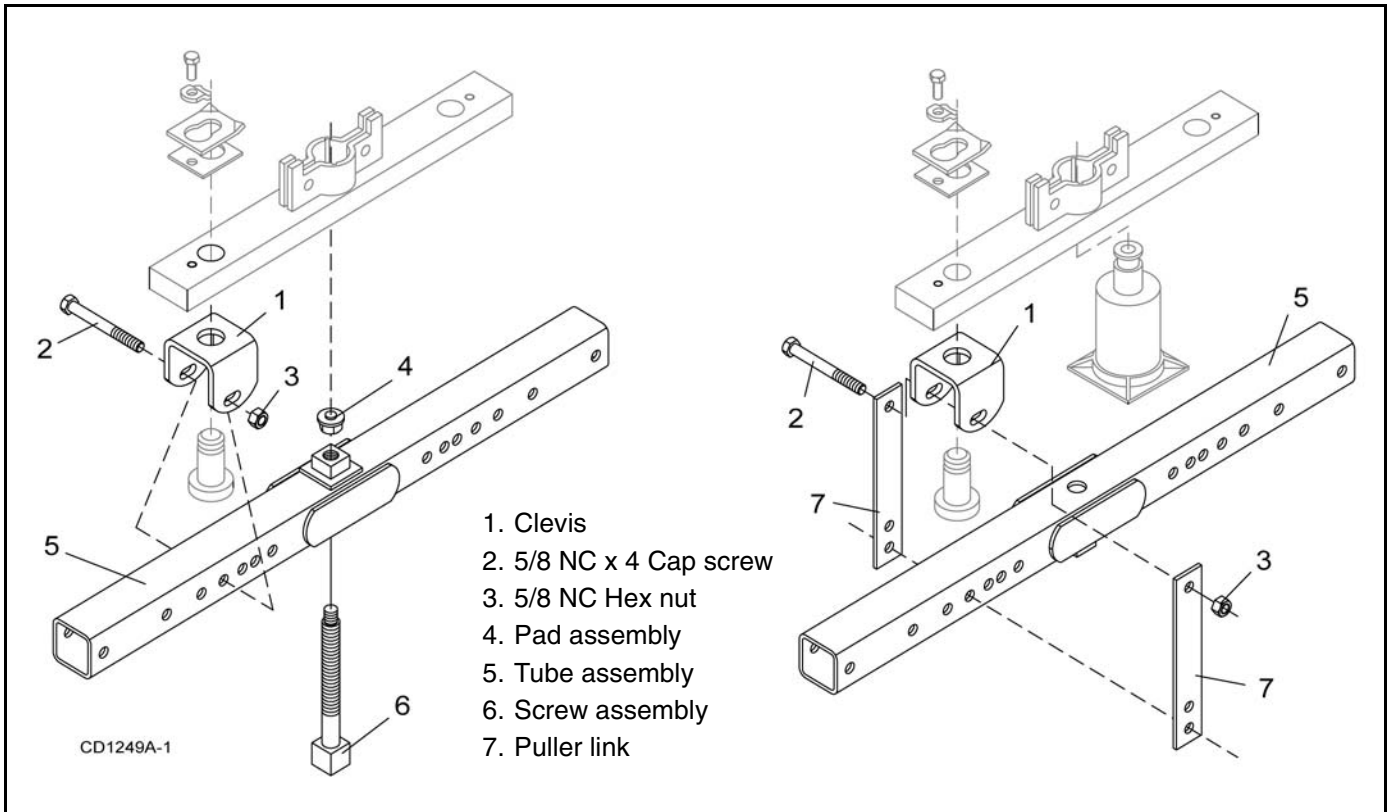

Figure 19. Crossbar Removal
4. Attach a clevis (1) to each end of crossbar, using blade pins, spacers, keyhole plates, and blade pin clips. See Figure 19.
5. Position tube assembly (5) with threaded nut toward crossbar for puller screw removal or down for hydraulic jack removal.
6. For removal with puller screw, attach tube (5) to each clevis with bolts (2) and nuts (3). Place pad (4) in nut and thread puller screw (6) into nut from bottom. Tighten until pad is solid against gearbox shaft. For best results, strike head of puller screw with a hammer while tightening with a wrench.
7. For removal with a jack, attach tube to each clevis with puller links (7), bolts (2), and nuts (3). Place jack on tube with end of jack pressing against gearbox shaft. Slowly apply force with jack.